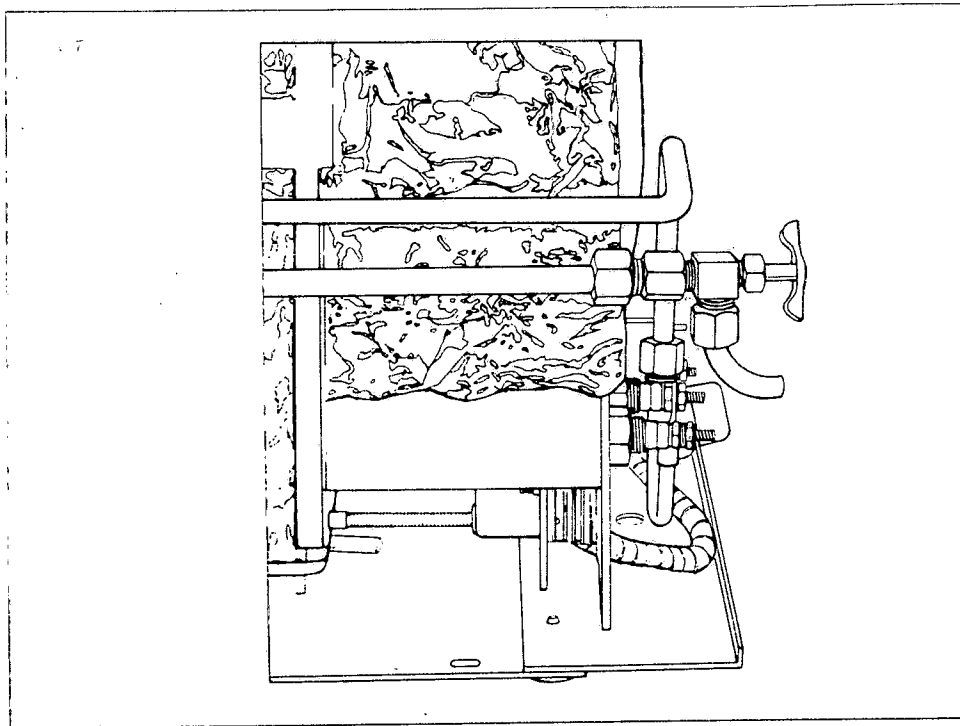
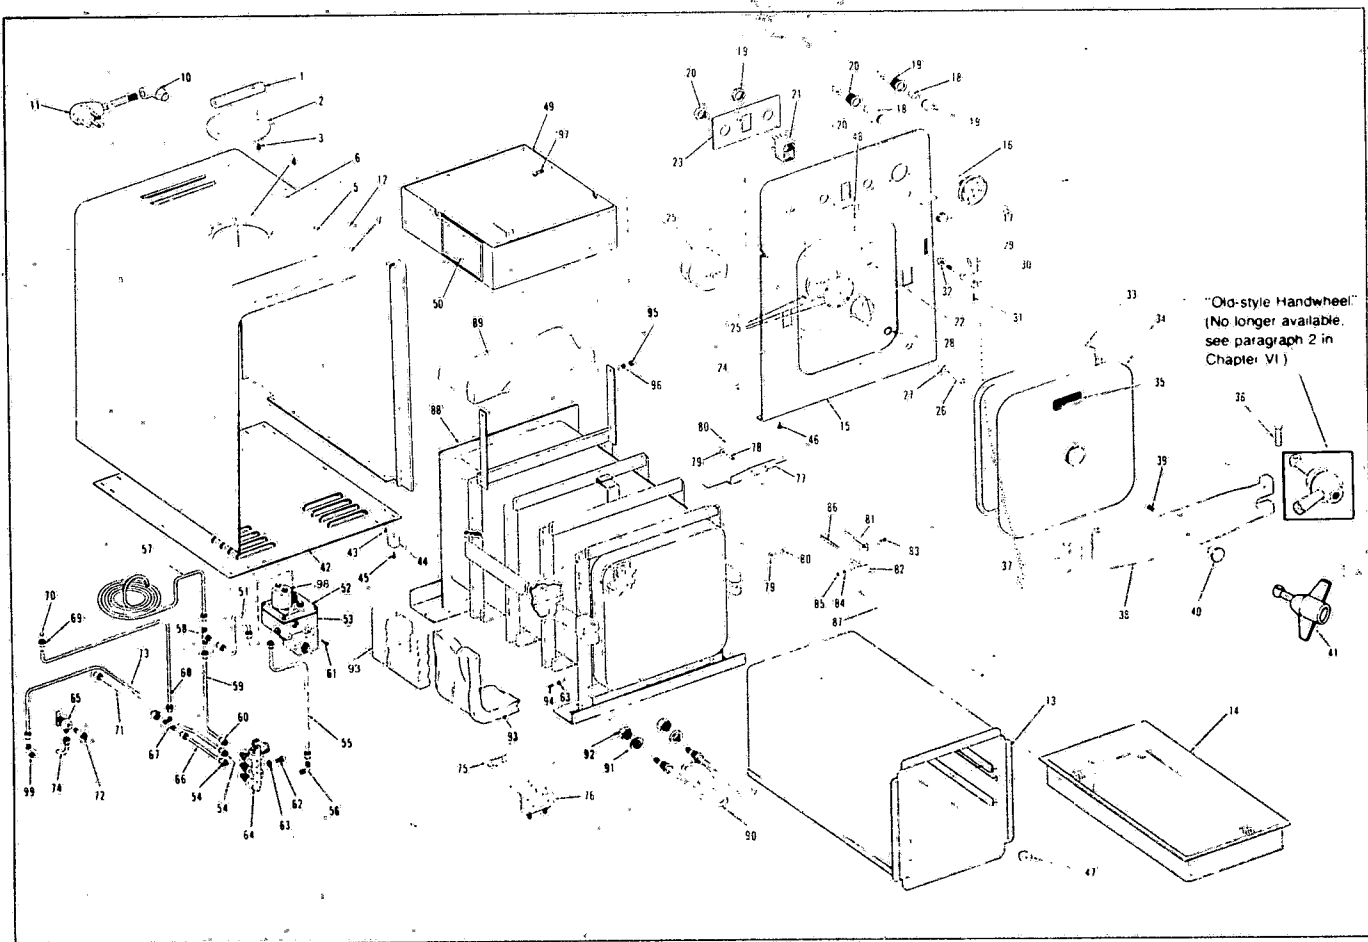

Figure 4-3. Shut-Off Needle Valve
Figure 7-1. Model 8816M
a. Be sure the control knob is turned clockwise as far as it will turn. (Fig. 7-1 or 7-1A)
b. Remove the sterilizer cover. (Fig. 7-1 or 7-1A).
4. **Door Gasket.** Life of door gasket (Figure 7-1 or 7-1A) will be prolonged if door is not overtightened. Replace door gasket as follows:
5. **Chamber and Liners.** To clean chamber and liner (Figure 7-1 or 7-1A), remove knob and slide liner forward through door. Clean scale from inner chamber and liner. Inspect weekly for excess scale and clean at regular intervals.
6. **Reservoir.** To empty reservoir (Figure 7-1 or 7-1A) open shutoff needle valve (Figure 4-3).
7. **Lubrication.** An occasional drop of machine oil on hinge pin (Figure 7-1 or 7-1A), lock bolt pin and door handle eye-bolt assures smooth operation.
Defective cord (fig. 7-1 or 7-1A).	Replace or repair.
Door gasket (fig. 7-1 or 7-1A) not sealing.	Replace door gasket (Chapter IV, Par. 5).
Defective heater (fig. 7-1 or 7-1A).	Replace with new heater (Chapter IV, Par. 5).
Defective cord (fig. 7-1 or 7-1A).	Replace or repair cord.
1. **Liner.** To remove liner (Figure 7-1 or 7-1A), remove nut and slide liner from unit.
- Remove pin (item 36, Figure 7-1 or 7-1A) then remove old handwheel assembly.
3816M Autoclaves manufactured from 1961 through 1964, were provided with door bar lock hinges (38, Figure 7-1 or 34, Figure 7-1A) that had narrow slot to accept handwheel assembly eye bolt.
3. **Control Valve Assembly.** To replace control valve assembly, first drain all water from system. Remove jacket (Figure 7-1 or 7-1A), disconnect valve lever, and disconnect tubes at control valve assembly. Remove screws securing control valve and remove control valve. Replace control valve in reverse order of removal.
4. **Control Housing Assembly.** To replace control housing assembly (Figure 7-1 or 7-1A) first drain all water from system and remove jacket. Disconnect tube at
5. **Heater.** To remove heater (Figure 7-1 or 7-1A) disconnect power source. Remove liner. Disconnect electrical wiring harness at heater terminal. Unscrew screws securing heater to shell (Figure 7-1 or 7-1A). Remove heater through front door opening. Replace heater in reverse order of removal.